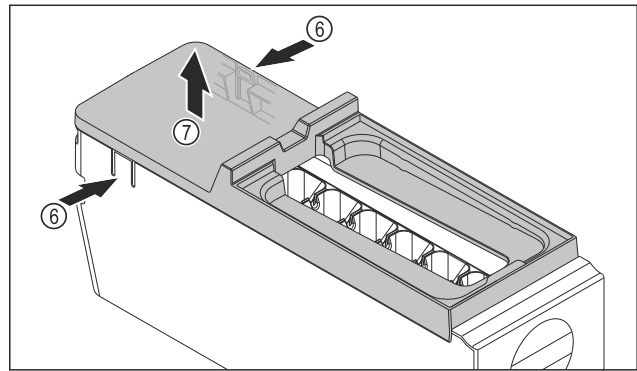

Fig. 125
- ▶ Removing the cover of the EasyTwist-Ice body: With one hand, press the tabs Fig. 125 (6) on both sides of the EasyTwist-Ice body.
- ▶ With the other hand, remove the cover Fig. 125 (7) upward.